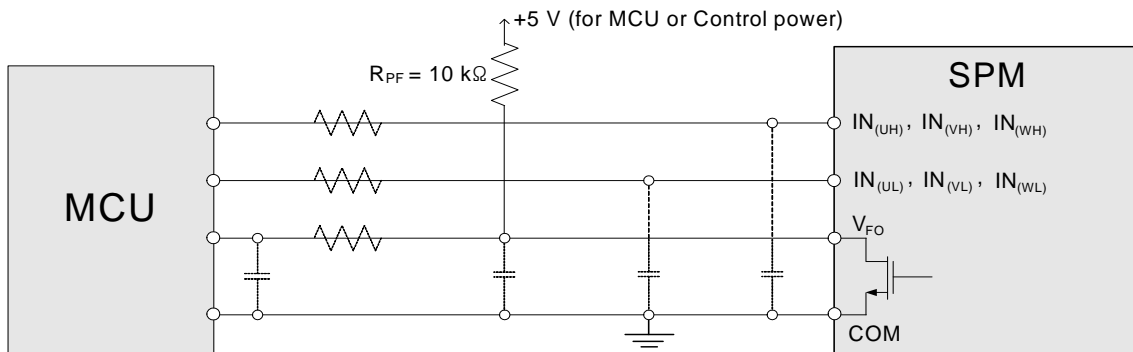

Figure 14. Recommended MCU I/O Interface Circuit
- 3) V_{F0} output is open-drain type. This signal line should be pulled up to the positive side of the MCU or control power supply with a resistor that makes I_{F0} up to 1 mA (please refer to Figure 14).